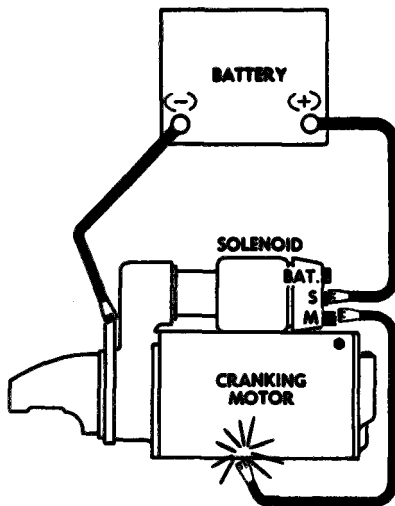
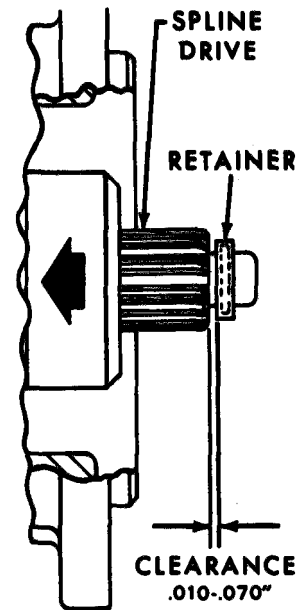

Figure 13-3. Circuit for Checking Pinion Clearance
Figure 13-4. Checking Pinion Clearance on Motor Drive
b. Install motor drive (38), collar (37), and ring (31).
c. Assemble drive housing (33) and lever housing (42) with screws (32) aligning match marks.
d. Assemble lever housing to field frame (not shown) with screws (40) and lockwashers (41) aligning match marks.
e. Assemble end frame (63) and field frame with screws (66) and lockwashers (67) aligning match marks.
f. Install solenoid switch (16) with screws and washers (17).
g. Install connector (8), lockwasher (7), and nut (6).
1. Make connections to assembled cranking motor as shown in figure 13-3.
3. Push motor drive (38) back towards commutator end.
4. Measure distance between motor drive and collar (37). See figure 13-4.
5. Remove plug (48) and turn nut (25) to adjust clearance from .010 to .070-inch.
6. Install plug (48).